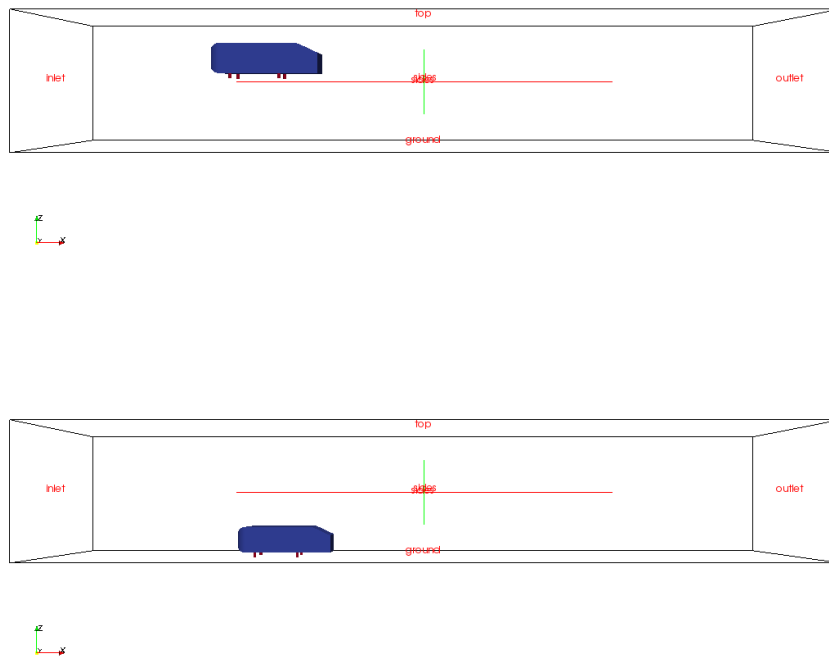

Figure 1.20: Correction procedure; rotation step (top) and translation step (bottom).
4. Rotate the geometry by 90° in the clockwise direction by typing the following line⁵. Then, see figure 1.20.:
8. Repeat steps 1 and 2 (and the output is shown in figure 1.20).